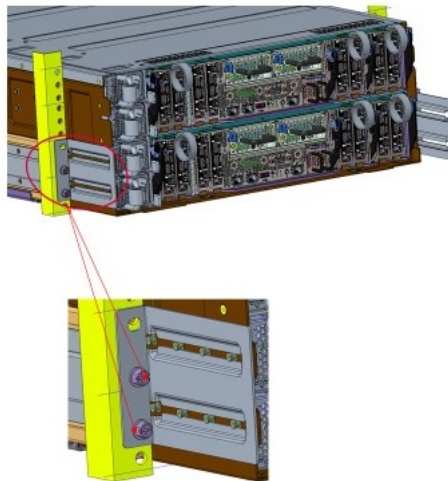

Figure 34. Inserting the enclosure
3. Slide the enclosure into the rack along the rails until the enclosure is fully inserted. (See Figure 34 on page 76.)
4. Fit the rear retaining brackets as shown in Figure 34 on page 76.